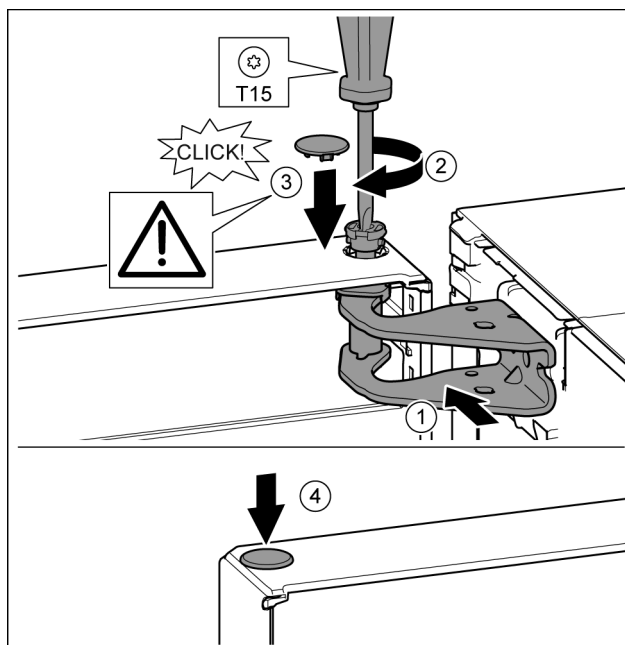

Fig. 24
- Align the top of the door with opening in the bearing bracket. Fig. 24 (1)
- Insert the bolt and tighten with a T15 screwdriver. Fig. 24 (2)
- Fit the protective cover to protect the door: Insert the protective cover and check that it is attached to the door. If not, insert the bolt fully. Fig. 24 (3)
- Insert the plugs. Fig. 24 (4)